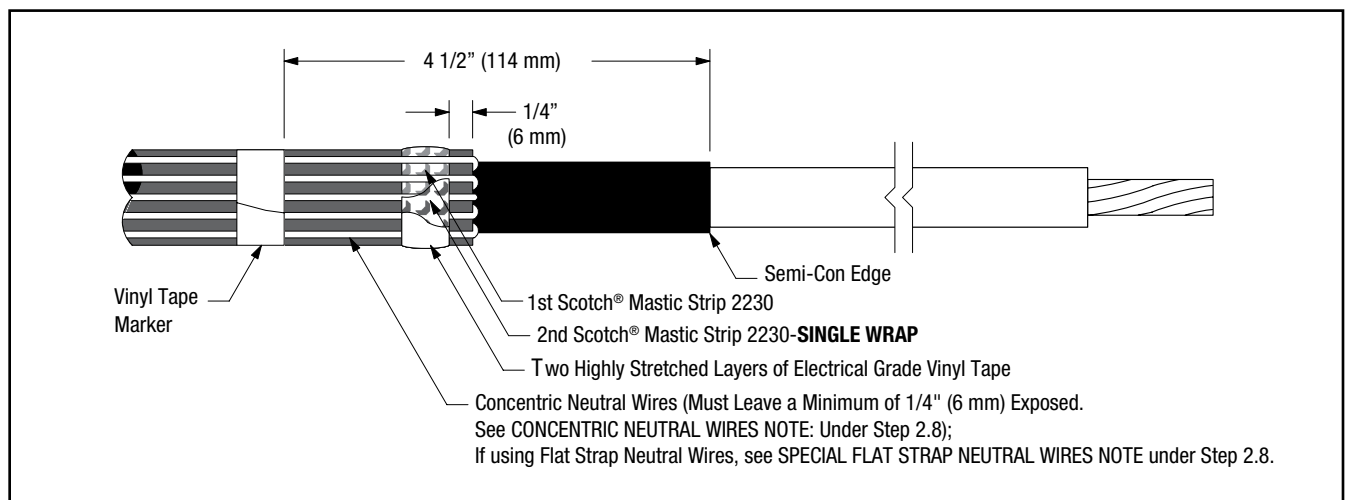

Figure 3
- 2.6 Bend neutral wires back over applied sealing mastic and secure to cable jacket 4 1/2" (114 mm) from cable semi-con edge using vinyl tape (see NOTE and Figure 3).
- 2.7 Select second Scotch® Mastic Strip 2230 from kit and remove white release liners. Apply a second **SINGLE WRAP** of mastic over the neutral wires and previously applied mastic (Figure 3). Cut off excess.
- 2.8 Compress neutral wires into mastic by over-wrapping seal strips with two highly stretched layers of electrical grade vinyl tape (Figure 3). **Be sure to cover all exposed mastic AND TO READ THE CONCENTRIC NEUTRAL WIRES NOTE, OR THE SPECIAL FLAT STRAP NEUTRAL WIRES NOTE, BELOW CONCERNING APPLICATION OF THE TWO HIGHLY STRETCHED LAYERS OF ELECTRICAL GRADE VINYL TAPE.**